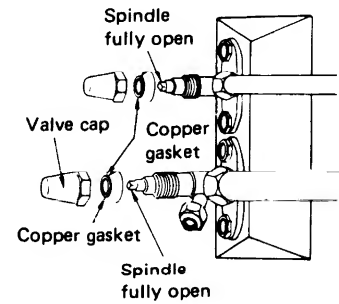

Fig. 37
- Next, re-install the valve caps in which copper gaskets have been inserted. Fig. 37